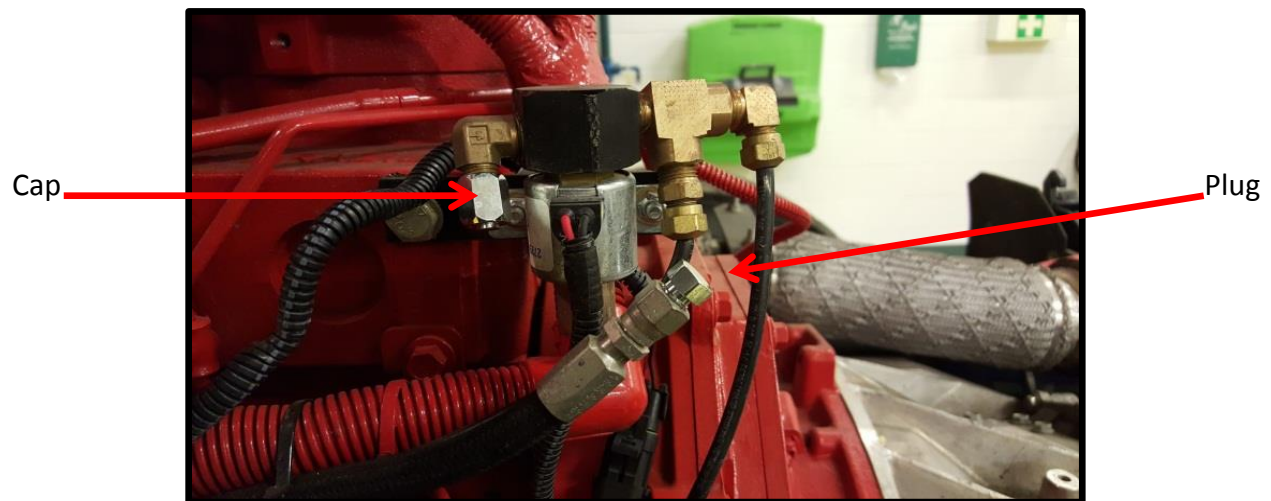

FIG. 10-1
10. Remove the cap from the 90° fitting at the fan clutch solenoid. Refer to FIG. 10-1.
11. Remove the plug from the fan clutch to clutch solenoid airline. Refer to FIG. 10-1.